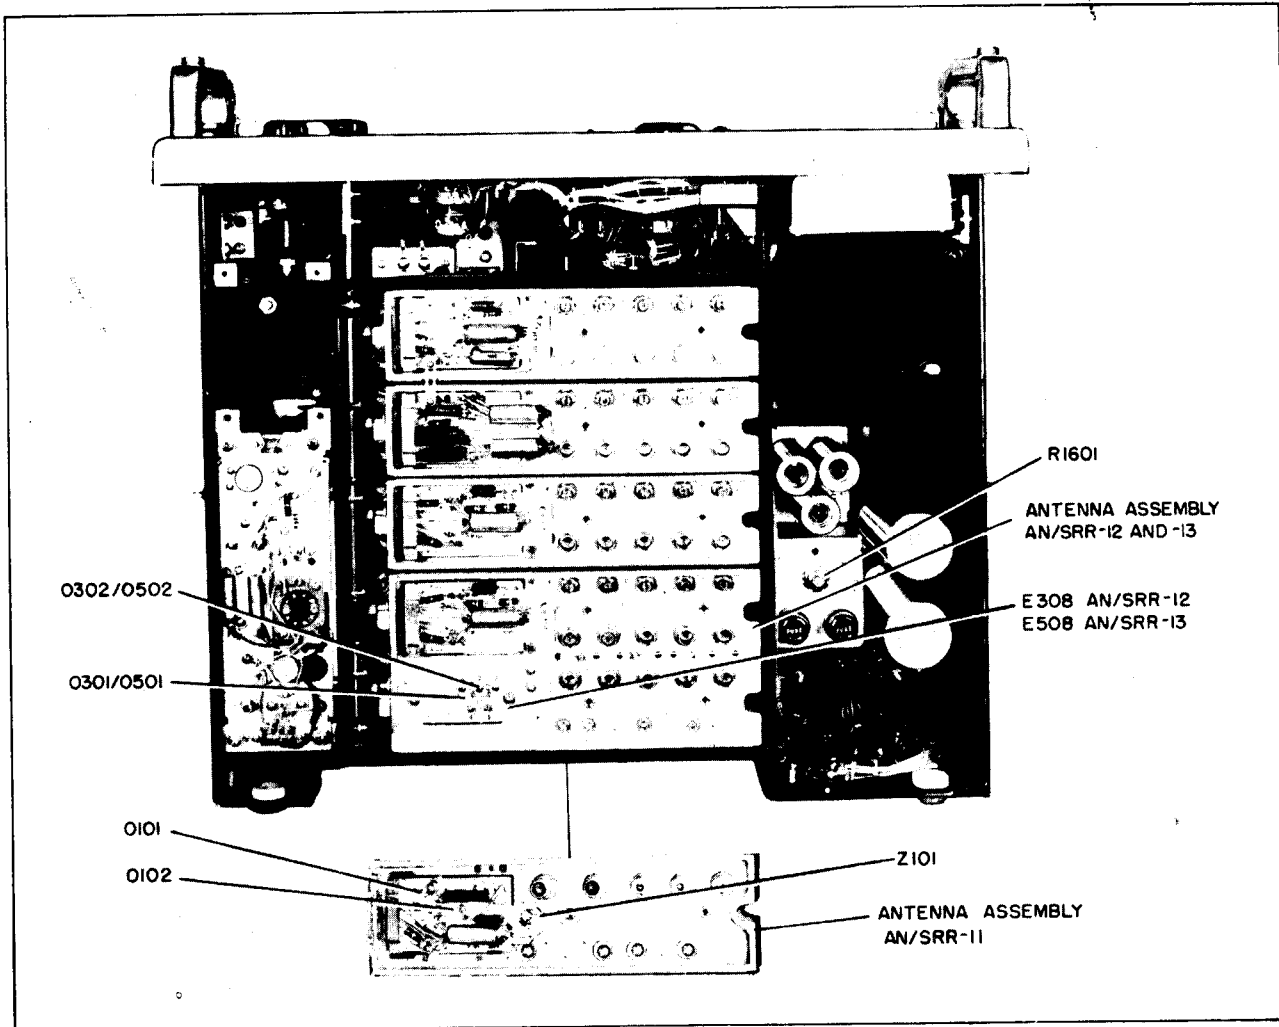

Figure 3-8. Initial Adjustment Component Location (Bottom View)
*e. MATCHING ANTENNA IMPEDANCE.*—The receivers are shipped with the links in the antenna assembly set to operate with a high-impedance antenna. To match the receiver input to a low-impedance antenna, place the receiver in the service position with the bottom of the chassis accessible. Links in the antenna Assembly of the AN/SRR-11, -12, or -13 should be set according to information given in figures 3-9 or 3-10, as the case may be. Location of the link boards are shown in figure 3-8.
SRR-11 must be open by appropriate setting of the ANT COMP control (turn the control to the HIGH position). Links O301 and O501 respectively must be set in position as shown in figure 3-10 to provide isolation when either the AN/SRR-12 or -13 is operated from a common antenna with another receiver. See figure 3-8 for link board location.
While monitoring the receiver with a headset plugged into the PHONES jack, adjust potentiometer R1601 in the power supply assembly. This potentiometer is located near the two FUSE cartridges. See figure 3-8.